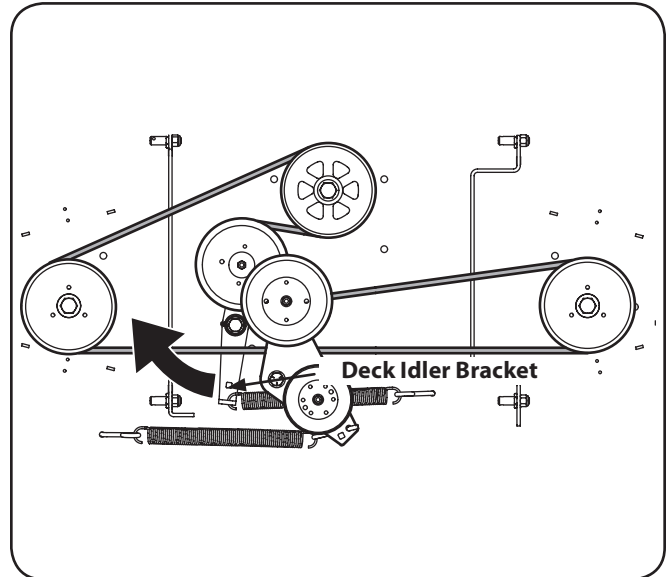

Figure 7-7
5. Using a 1/2" drive insert the male end into the 1/2" square opening in the deck idler assembly and rotate the idler clockwise. See Figure 7-7. While holding the deck idler, loosen the deck belt from the pulley and slide the belt away from the pulley.
6. Route the new belt as shown in Figure 7-7. Then reinstall the deck and PTO belt as instructed on pages 34-35.